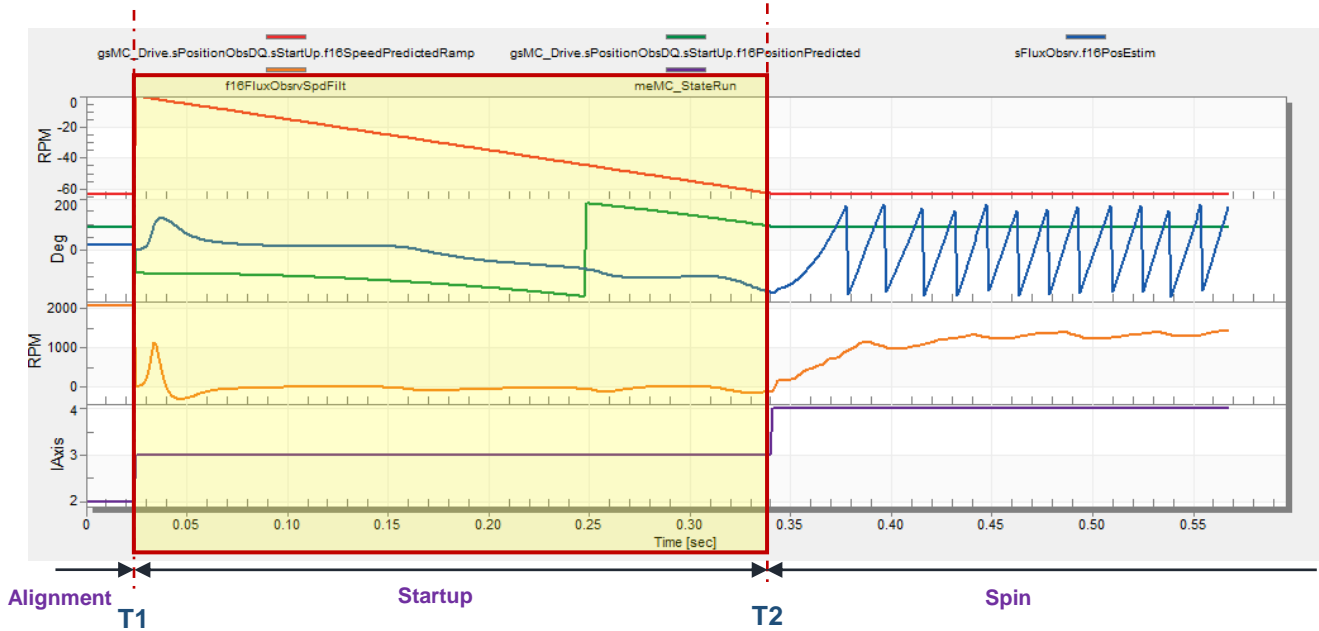

Figure 4. Predicted and estimated position and speed during open-loop startup
Figure 4 shows the real values of the variables in this stage. There are four scopes in figure 4:
- 3) The current vector only rotates 180 electrical degrees, so the duration of this stage is short and the rotor is supposed to be pulled near -180° in the end, which is time point T2. A flux observer is enabled in this stage, which is expected to converge and get the rotor position at the end of this stage (time point T2). As shown in Figure 4, the estimated rotor position (blue line) is around -150° in the end (time point T2).